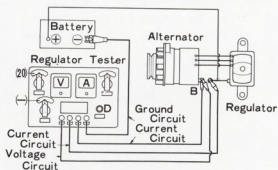

Fig.7-24 Test Circuit G0333
2. Disconnect the "B" terminal wire from the alternator, and connect the regulator tester as shown in figure 7-24.
Make the test connection as shown in figure 7-24.